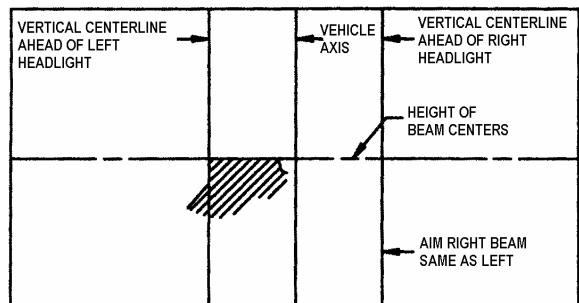

FIGURE 36: HIGH-INTENSITY ZONE (SHADED AREA) OF A PROPERLY AIMED LOWER BEAM ON THE AIMING SCREEN 7.6 M (25 FT) IN FRONT OF VEHICLE 06504
- 6. Low beam headlights are aimed so that the top edge (the cutoff) of the high-intensity zone is at the vertical location as per Table 1 and the left edge of the high-intensity zone is at the vertical centerline of the headlight (Fig. 36).